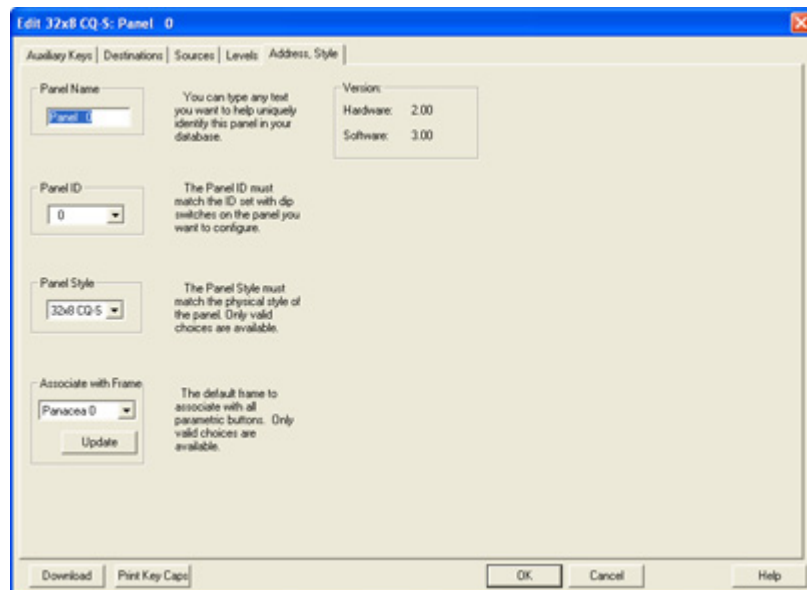

Figure 8 Address, Style Tab
5. Select the Address, Style tab. Panel information should appear as shown in **Figure 8**.